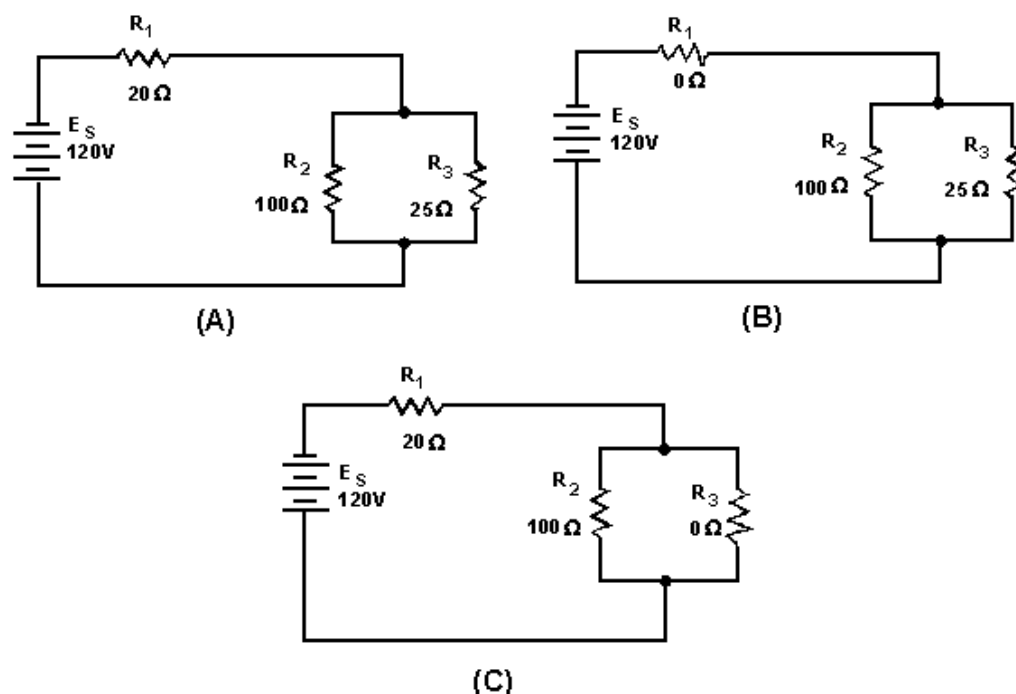

Figure 3-62.—Series-parallel circuit with shorts.
circuit involved. To illustrate this point, figure 3-62 shows a series-parallel network in which shorts are developed. In figure 3-62 (A) the normal circuit is shown.  $R_T = 40$  ohms and  $I_T = 3$  amps.
In figure 3-62 (B),  $R_1$  has shorted.  $R_1$  now has zero ohms of resistance. The total of the resistance of the circuit is now equal to the resistance of the parallel network of  $R_2$  and  $R_3$ , or 20 ohms. Circuit current has increased to 6 amps. All of this current goes through the parallel network ( $R_2$ ,  $R_3$ ) and this increase in current would most likely damage the components.
In figure 3-62 (C),  $R_3$  has shorted. With  $R_3$  shorted there is a short circuit in parallel with  $R_2$ . The short circuit routes the current around  $R_2$ , effectively removing  $R_2$  from the circuit. Total circuit resistance is now equal to the resistance of  $R_1$ , or 20 ohms.